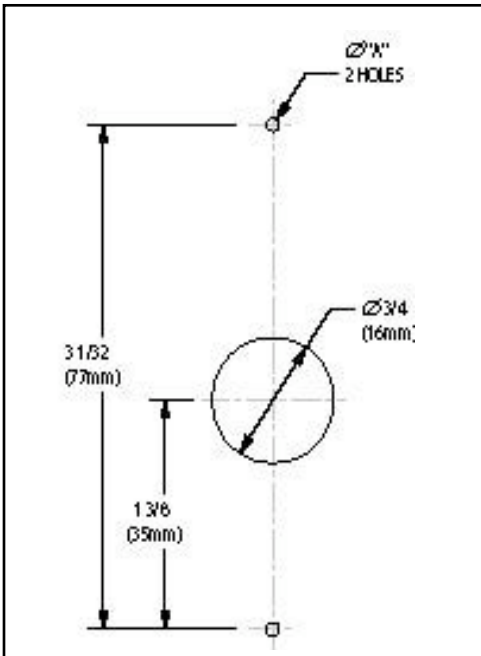

Figure 1: Installation Diagram
1. An installation diagram (Figure 1) is in the left-hand column of this sheet.